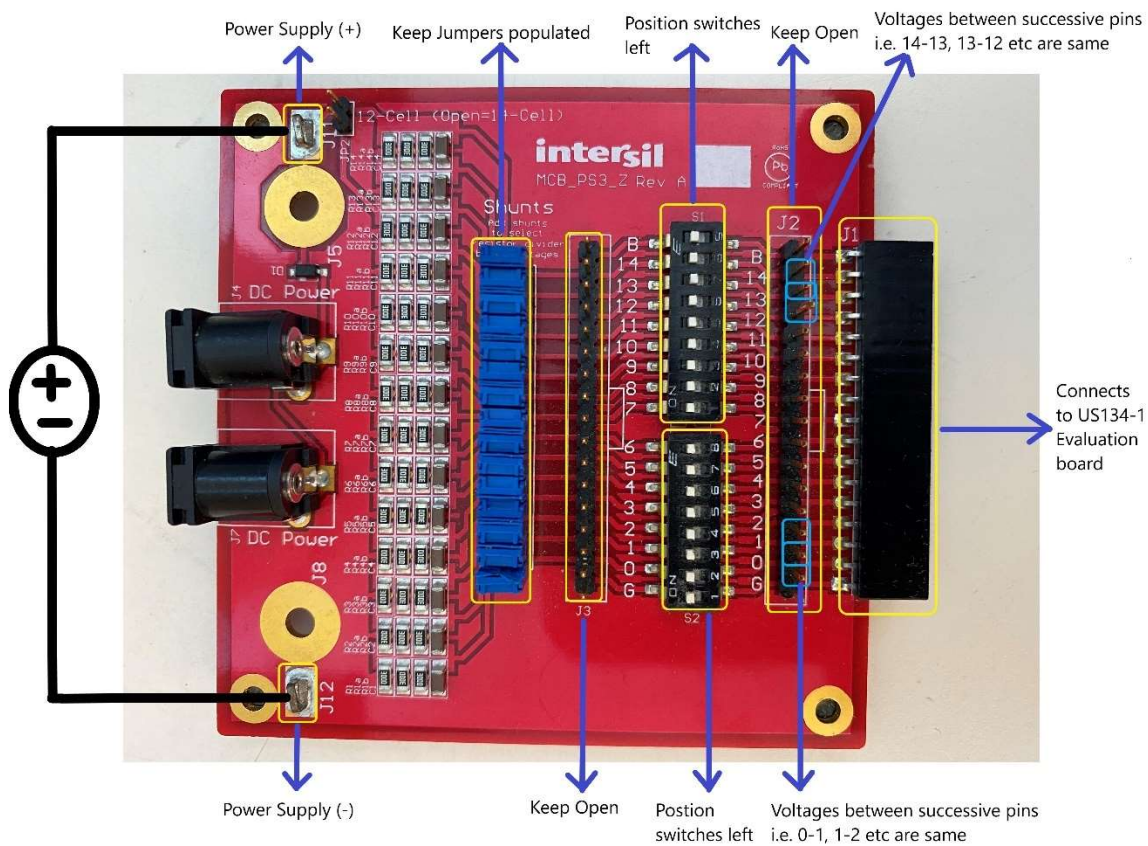

Figure 5. Battery Emulator Overview
2. Ensure all the shunts/jumpers are populated for JP1, J3 is OPEN and S1/S2 switches are all positioned to the left. See Figure 5 below.